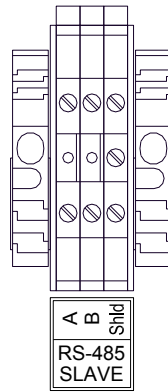

Figure 13 N4X RS-485 Slave Port Connections
8. If linking the MX 40 enclosure to an RD-64X remote display unit, connect the unit to the slave port terminals labeled **RS-485 Slave: 'A'**, **'B'**, and **'Shld'** (Figure 13).